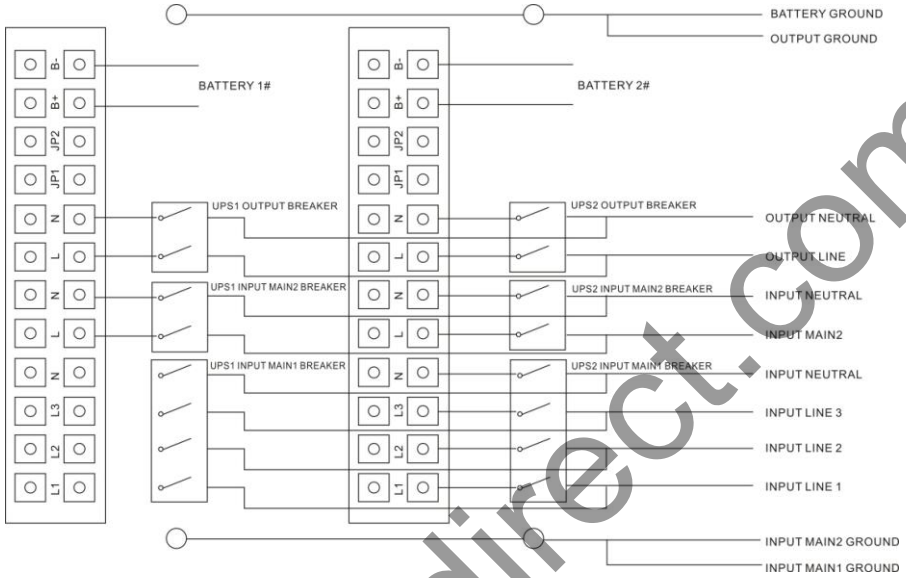

Fig. 6-1 Input and output Terminal Block wiring diagram of B500EVO-100-B
- 8) Please refer to the wiring diagram (Fig 6-1).